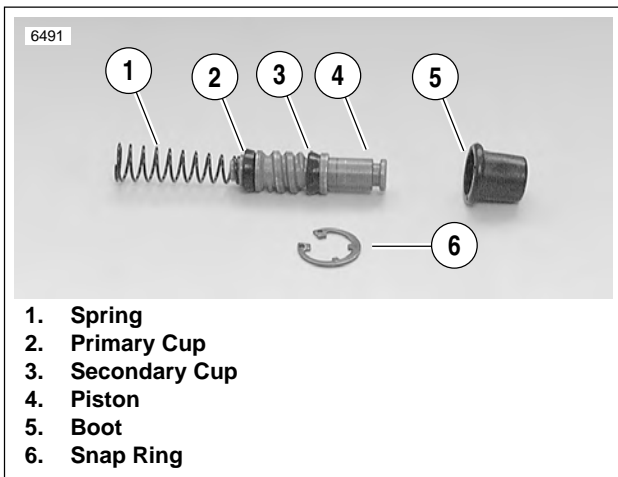

Figure 2-25. Piston Assembly
4. Depress piston assembly and remove internal snap ring (3). Discard snap ring.
5. See Figure 2-25. Remove piston assembly (1-4) from front master cylinder.